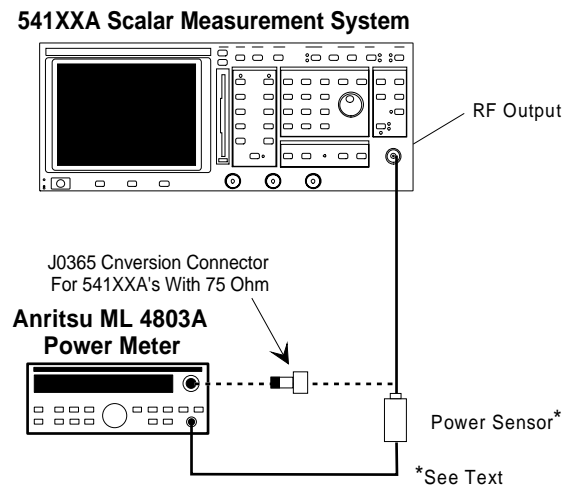

Figure 6-20. Equipment Setup for ALC Pre-Adjustment Procedure
- Set up test equipment as shown in Figure 6-20.